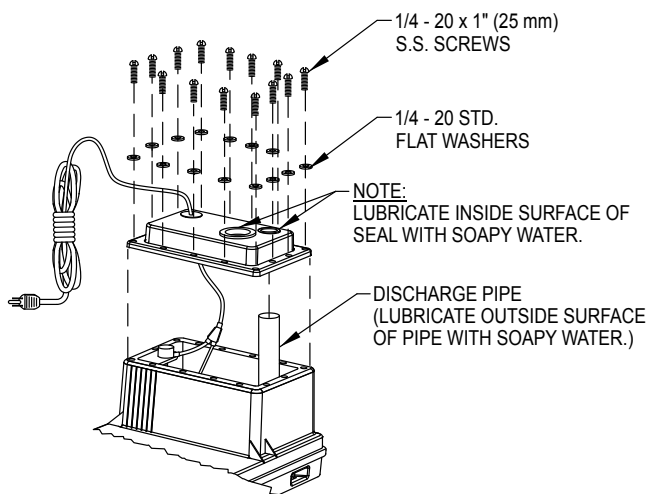

Figure 7.3
- 7.3) Install the Lid onto the pump chamber as shown in Figure 7.3.